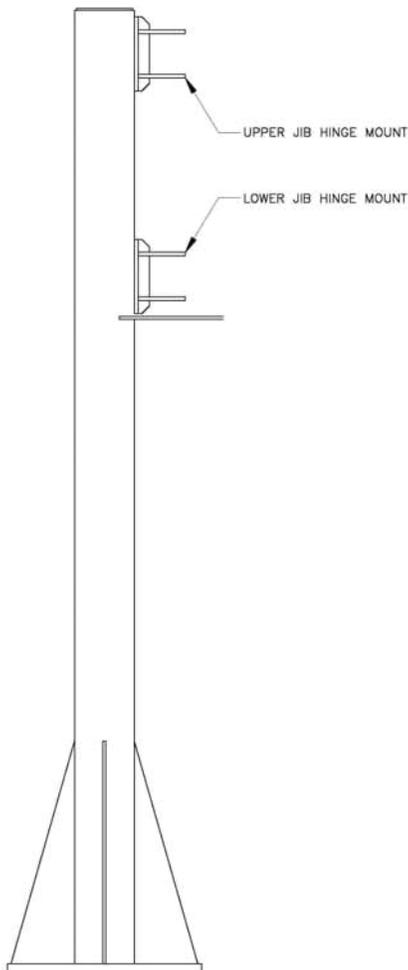

Figure 1 --Jib Column Assembly
■ All standard ETA jibs are shipped in (2) pieces, Jib Column Assembly (see figure 1) and Jib Crane Assembly (see figure 2).